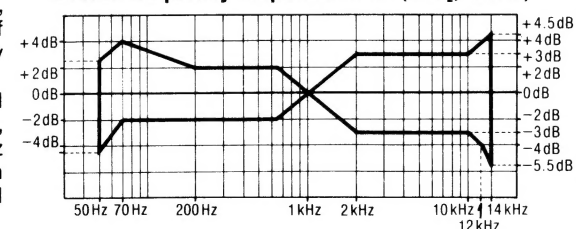

Fig. 16
8. Change test tape to CrO₂ reference blank test tape (QZZCRX), and record 1kHz, 50Hz, 100Hz, 200Hz, 500Hz, 4kHz, 8kHz, 10kHz, 12kHz and 14kHz signals. Then, playback the signals and check if the curve is within the limits shown in the overall frequency response chart or CrO₂ tapes (fig. 16).
9. Place UNIT into metal tape mode and change test tape to metal reference blank test tape (QZZCRZ), and record 1kHz, 50Hz, 100Hz, 200Hz, 500Hz, 4kHz, 8kHz, 10kHz, 12kHz and 14kHz signals. Then, playback the signals and check if the curve is within the limits shown in the overall frequency response chart for metal tapes (fig. 16).